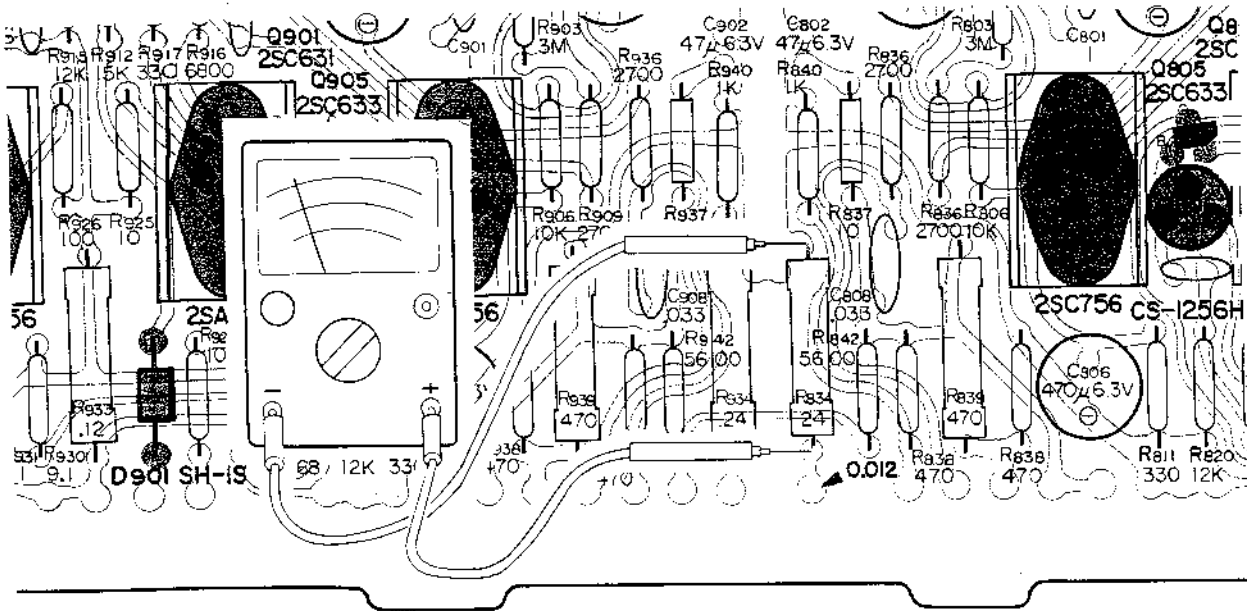

Fig. 4-7-1 DC Bias Adjustment Test Set-up
1. Connect the dc volt meter between the emitter of Q_{510} and ground as shown in Fig. 4-7-1.